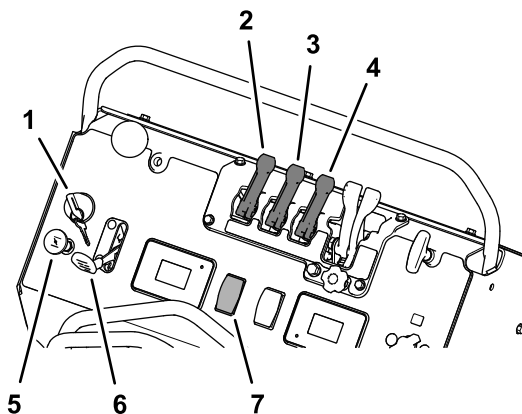

Figure 60
3. Engage the parking brake, move the steering-control/motion-control lever to the NEUTRAL position, and start the engine (Figure 60); refer to Starting the Engine \(page 22\).
4. Tap the sprayer-pump switch to the ON position, and set the engine throttle to FAST position (Figure 60).
5. Pull the tank-agitation lever to the ON position (Figure 60).
1. Pull back both narrow and wide-spray pattern levers to the ON position (Figure 60).
6. Move the spray-pattern levers forward to the OFF position, set the sprayer-pump switch to the OFF position, and shut off the engine (Figure 60).